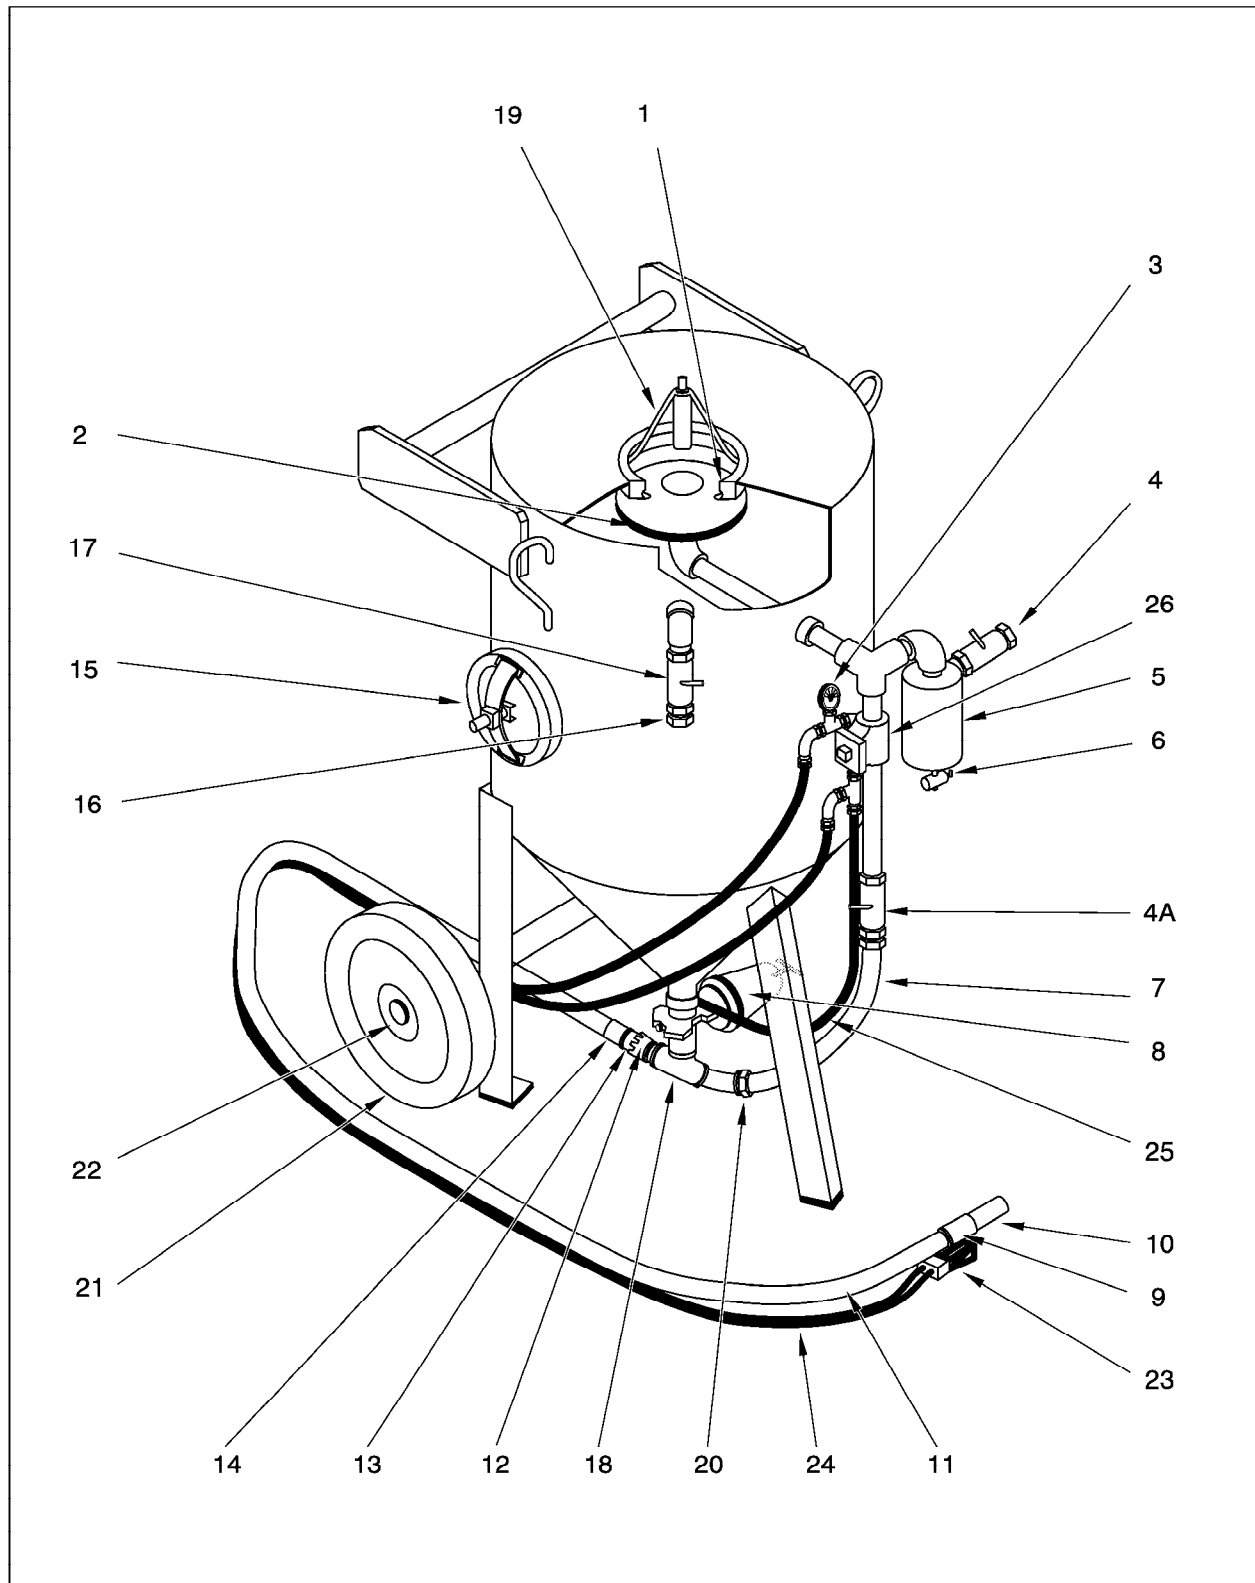

Figure 4-1 SuperBlast 780 System With Saf-Stop II Remote Controls
The ***SuperBlast 780*** system with ***Saf-Stop II*** remote controls is illustrated in *Figure 4-1* and the parts list is provided in *Table 4-1*. Reference numbers in *Figure 4-1* correspond to the numbered items in *Table 4-1*.
Refer to Figure 4-1. Use the following procedure to set up the *SuperBlast 780* system with *Saf-Stop II* remote controls:
2	Locate the air pressure gauge (3) in a box taped to the pipe string support bracket. Install the ¼" gauge in the connection tee, as illustrated in Figure 4-1.
1	Close main air valve (4). (In the closed position, the handle is perpendicular to the pipe, as illustrated in Figure 4-1.) Pressurize the air line that connects the compressor to the pressure vessel.